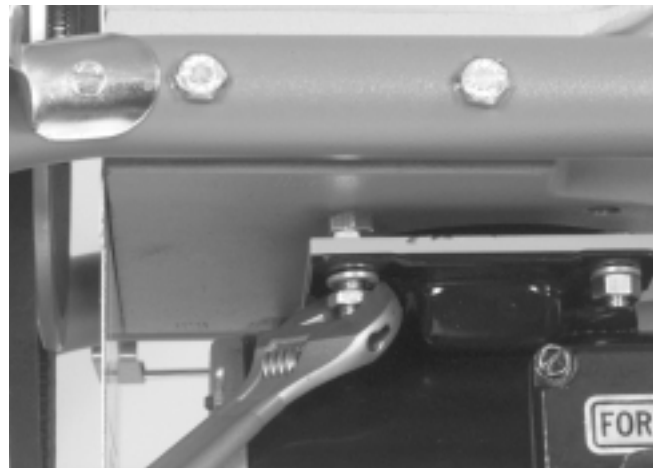

Figure 14 – Removing Clutch End Play
1. To remove end play from clutch, loosen screw in Adjusting Nut. (Figure 14).